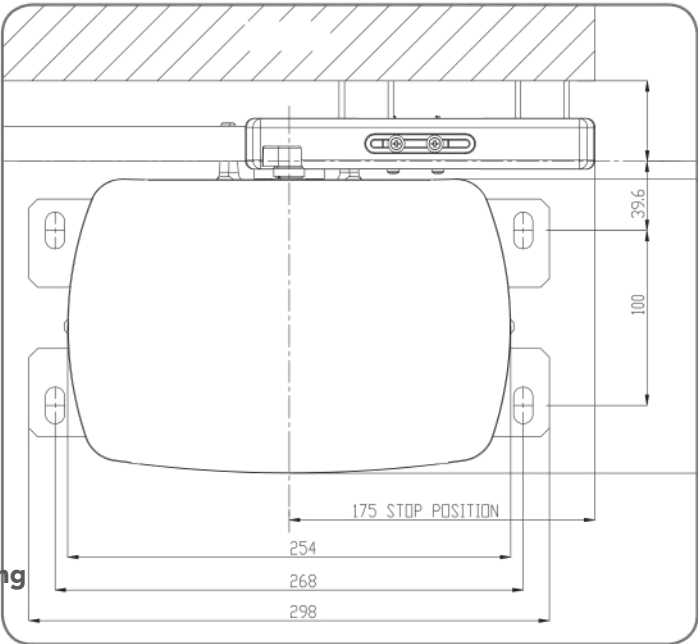
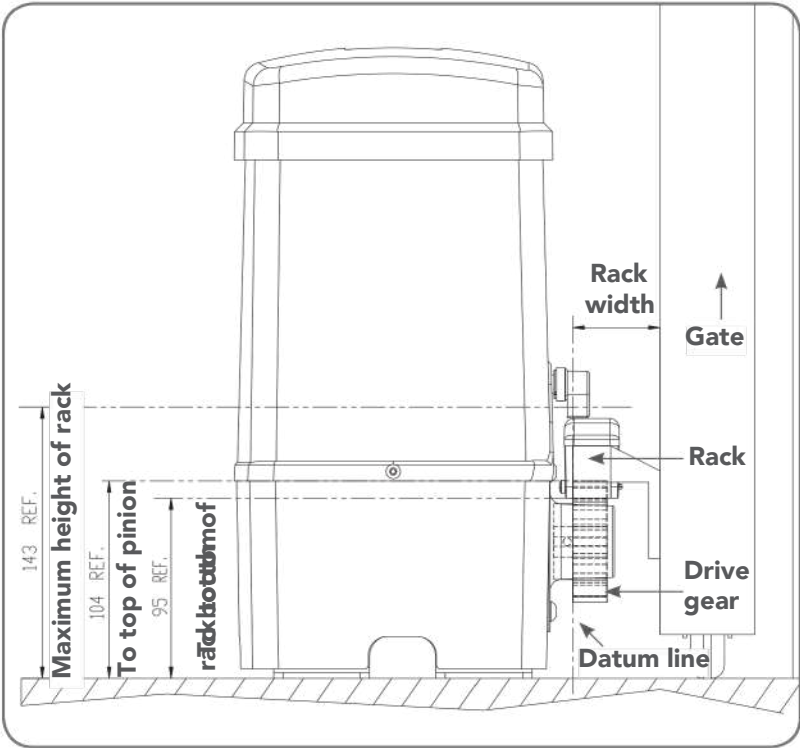

Fig 4.2
Fig 5.1
- a. Prior to mounting the NeoSlider™, determine the distance from the gate to the outer edge of the rack (i.e. the rack width) and to the datum line (see Fig. 4.2 and Fig. 5.1). If using an Automatic Technology plastic rack, the width is 40mm. If using a different brand of rack, please ensure it is Module 4 and then confirm the width, as this will vary.
- b. Mark a line parallel to the face of the gate for the mounting holes. The distance from the gate is determined by the formula (38mm + Rack Width). Therefore, if using an Automatic Technology rack, the distance is 78mm. Otherwise, if using a non-Automatic Technology rack, add your rack width (and spacers if required) to the 38mm (see Fig. 4.2).
- c. Another 100mm back, mark another line parallel to that described in point 2 for fixing. (see Fig. 4.2).
- e. Then mark another line 268mm parallel to this line (see Fig. 4.2).